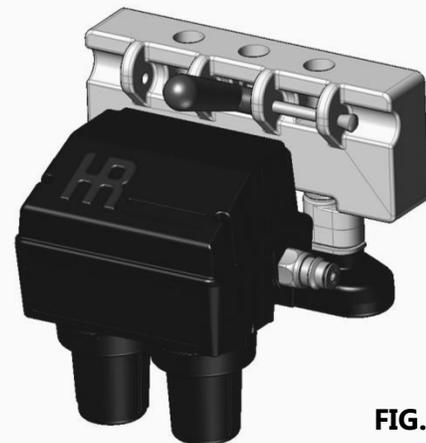

FIG.1.4
For Taylor Models: 150-XX, 161-XX, (C) 161-XX, 152-XX, (C) 152-XX, 162-XX, and 168-XX: The Center Draw Valve Handle will be repurposed to secure the Hydra Rinse® Pro-control to the soft serve machine as illustrated **FIG 1.4**.